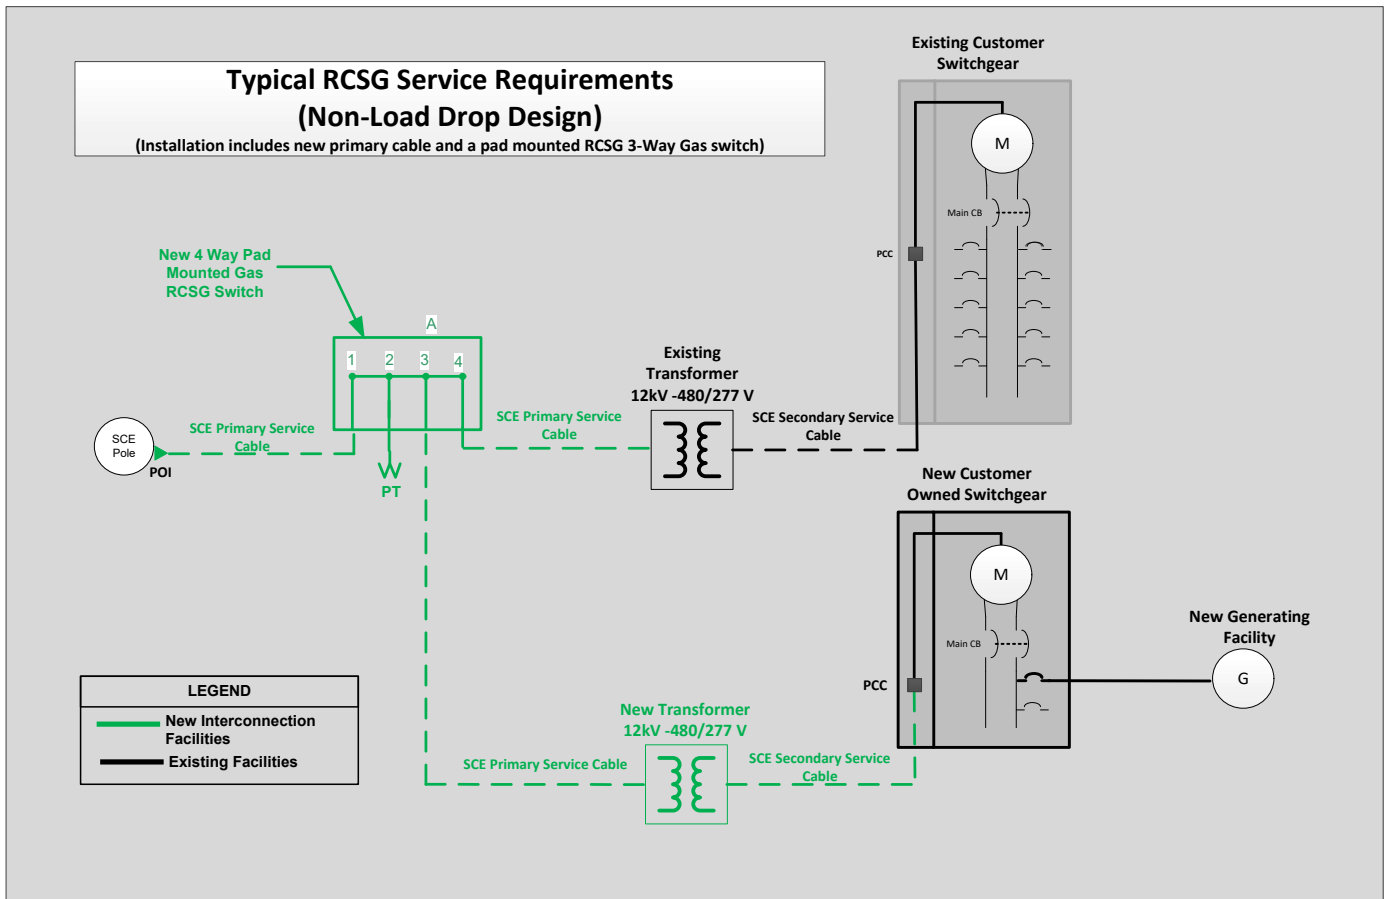

Figure 6 - Typical RCS-G Non-Load Drop Design Requirements
RCS-G installations utilizing a Non-Load Drop Design configuration will continue to serve the customer facility's loads while isolating the generation facility as shown in **Figure 6**7 below.
The customer is responsible for the procurement and installation of the NGOM socket per SCE's ESR. Please refer to Appendix G for the NGOM Panel EUSERC Drawing Number Guide Table to select a compatible NGOM panel. Refer to ESR-1 Section 12 and Figure 6 for additional wiring instructions of the NGO socket.
- Visible, lockable open, AC disconnects connected on both sides of the NGOM as per figure 6